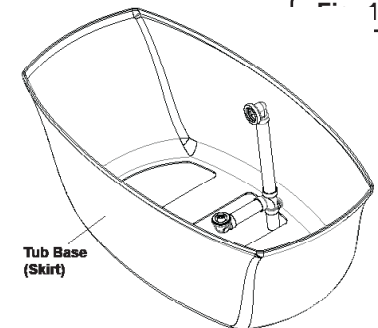

Fig. 16
2. Mark trough for the overflow drain location. The drain/overflow extends below the bottom of the bath. The drain-overflow requires a cutout of the floor for providing space to accommodate the extension. Do not exceed the dimensions of the tub perimeter (Figure 16).